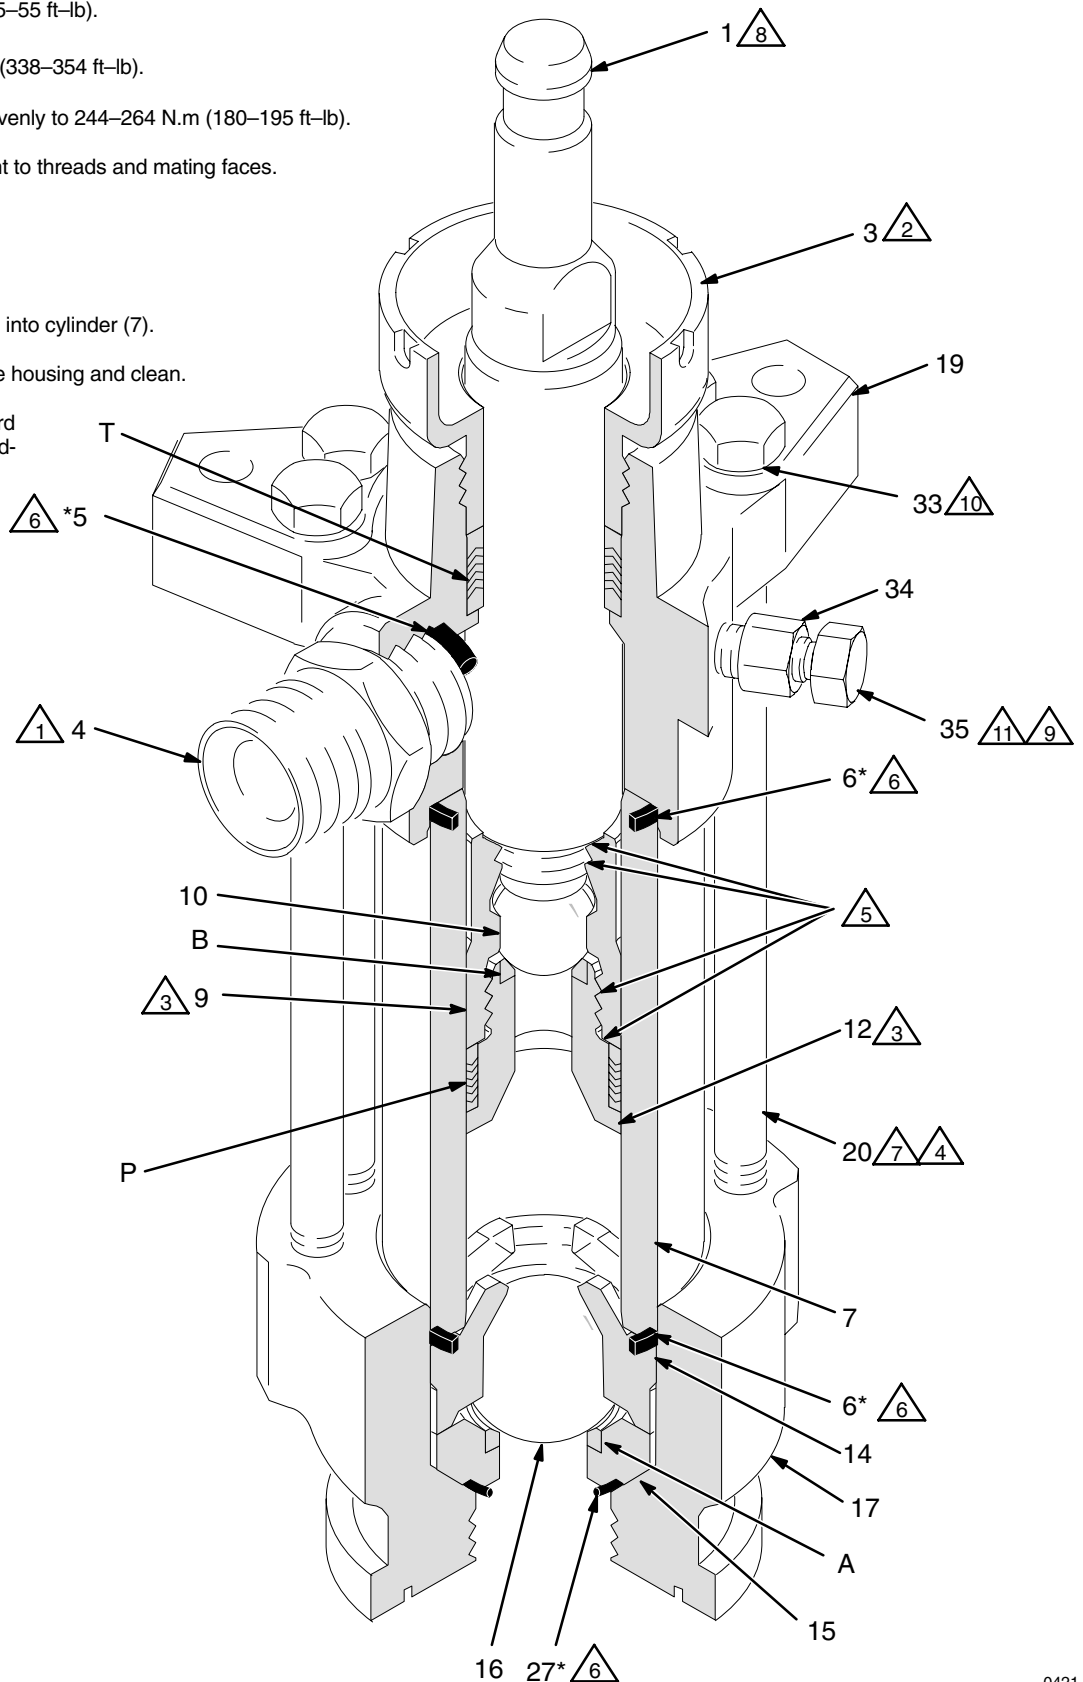

Fig. 8
1. *If it was necessary to remove the ball guide (9) from the displacement rod (1),* place the flats of the rod in a vise. Apply anti-seize lubricant 222955 to the threads and mating faces of the rod and the ball guide. Screw the ball guide onto the rod, hand tight. Remove from the vise. See Fig. 8.
2. Place the female gland (13*) on the piston seat housing (12). Install the five v-packings (P) one at a time **with the lips facing up**. Refer to pages 30 and 32 for the correct packing order for your pump. Install the male gland (11*).